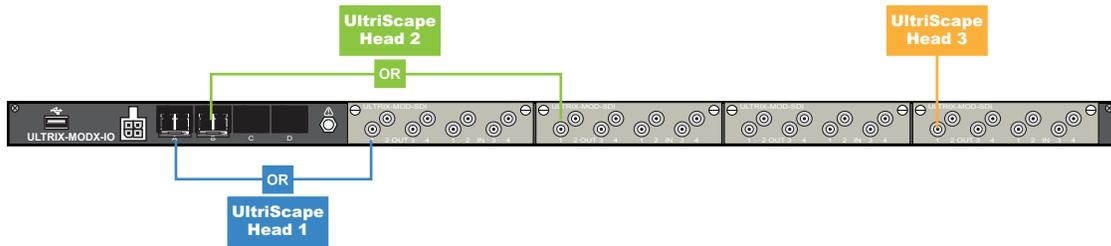

Figure 30 Example of UltraScape Head Mapping on a Single ULTRIX-MODX-IO Blade with Four ULTRIX-MOD-SDI
- One Multiviewer Head (refer to **Figure 30**)
Figure 30 illustrates the connections allocated for UltraScape Heads on an ULTRIX-MODX-IO with four ULTRIX-MOD-SDI.